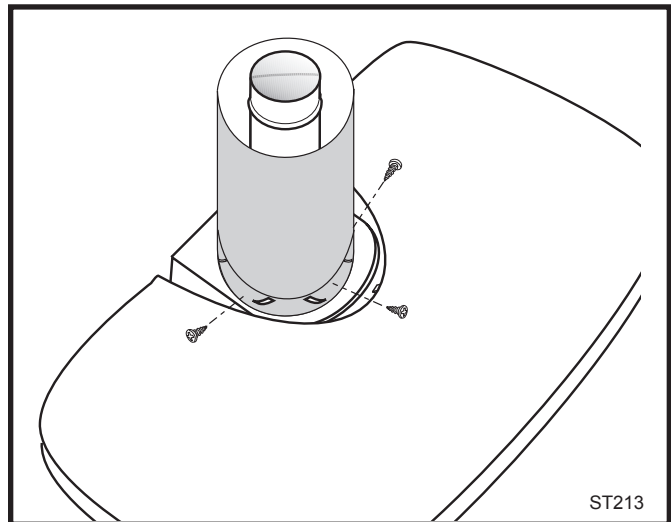

Fig. 20 Fasten outer pipe with #12 x 1/2" sheet metal screw.
4. Install the Outer Adapter Pipe. Apply a 1/4" bead of cement around the inside wall of the pipe, about 1" from the end. Insert the pipe over the stove flue collar, keeping the vertical seam oriented to the back of the stove. Also, be sure to align holes on the pipe with the holes on the flue collar of the firebox. Fasten the pipe to the holes in the flue collar with the #12 x 1/2" sheet metal screws provided. (Fig. 20)